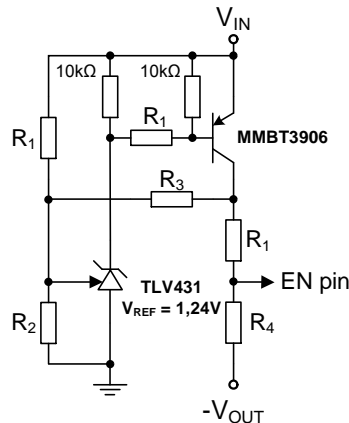

Figure 13: Level-shifting comparator for precision UVLO with controlled hysteresis
In some applications the large hysteresis between the rising enable UVLO threshold (VEN) and the falling, shutdown threshold (VSD) can be an advantage, but in most cases the difference between VEN and VSD is less than one volt. In order to achieve a small hysteresis a level-shifting comparator is needed. Figure 13 shows one example built with low-cost parts.
- To set the hysteresis as defined in Section 4.8.1, remove both RENT and RENB. Assemble the circuit of Figure 13 along with the calculated values on a small section of perforated PCB (“perfboard” or “dot PCB”) and then connect it with the shortest wiring possible to the VIN, GND, -VO and EN nodes of the evaluation board.